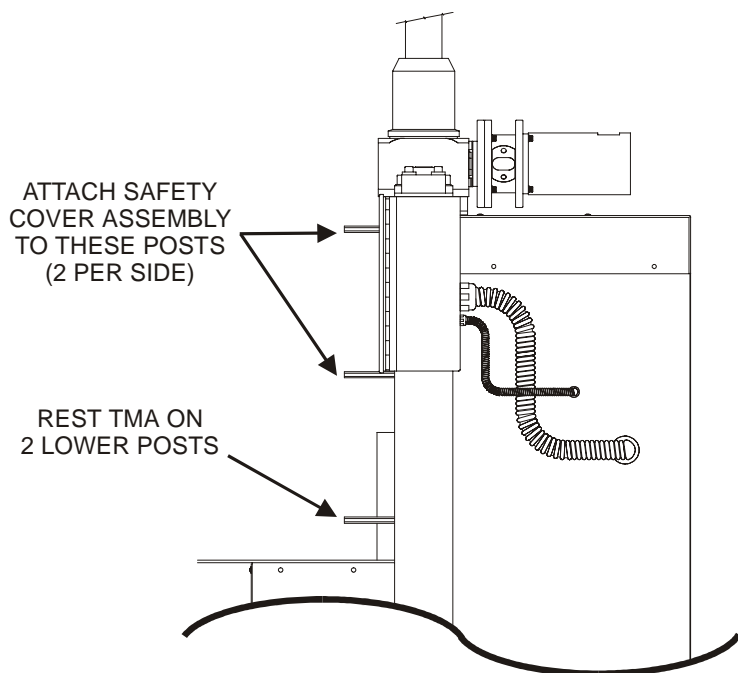

Figure 4. Compactor Mounting Posts (Side View)
7. A safety cover assembly is provided with the TMA. Attach this assembly to the four upper mounting posts using four of the screws removed in step 1 (see Figure 4).
3. Lift the TMA into place. The two L-shaped brackets at the bottom of the TMA should rest on the two lower mounting posts on the left and right frame rails (see Figure 4).